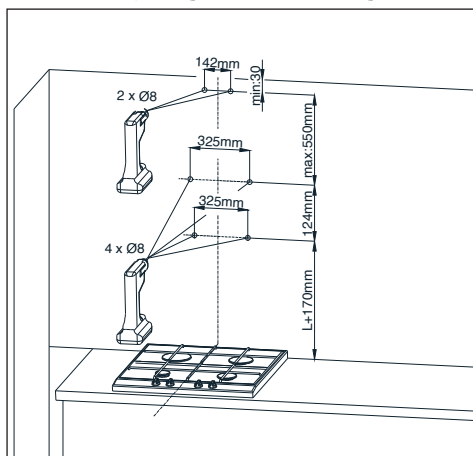

Fig.10 Assembly dimensions
1. Define the axis of cooking range, and project it onto the wall, where the hood will be mounted. Sign all characteristic points of hood fastening. Make the openings with the drill. (Fig. 10)